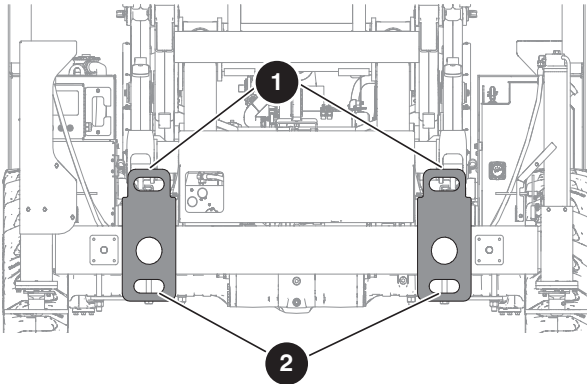
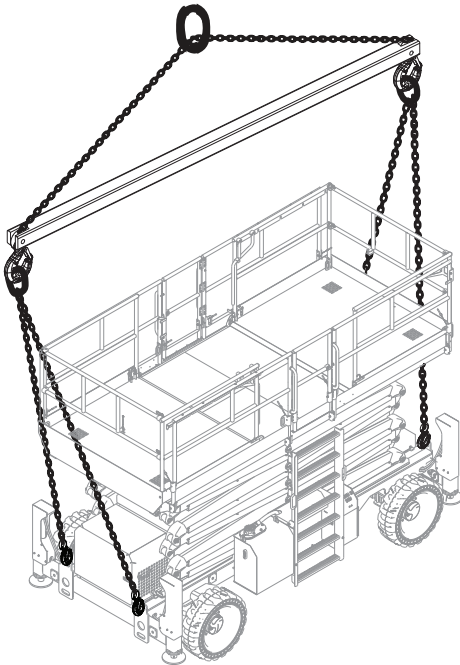

Figure 09 Lift and tie-down points
Figure 10 Appropriate method to hoist
- Attach the rigging to all **four lift points ①**. Refer to Figure 09 and Figure 10.
When you transport the MEWP, it must be attached to a truck or trailer deck. Use the available tie-down points  to attach the MEWP. Refer to Figure 09 If you do not obey, there is a risk of death or serious injury.
- Tie-down the MEWP to the transport vehicle using the four tie-down points . Refer to Figure 09.